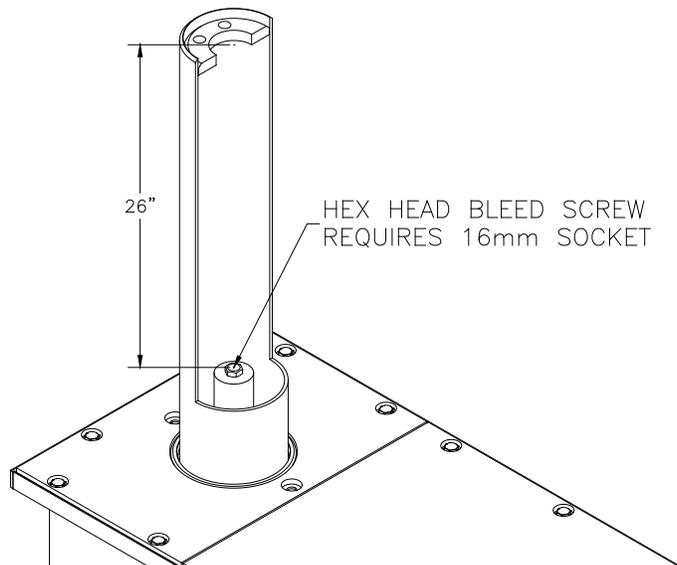

Fig. 9
20. Finish Energize the power unit to run the cylinder up about 3 feet. Loosen the bleed screw at the top of each cylinder, and allow the trapped air to escape. Bleed both cylinders until clear oil is seen. Refer to Figure 9. Raise the lift to full stroke and continue to run the power unit for another 10 seconds to check for hydraulic leaks.